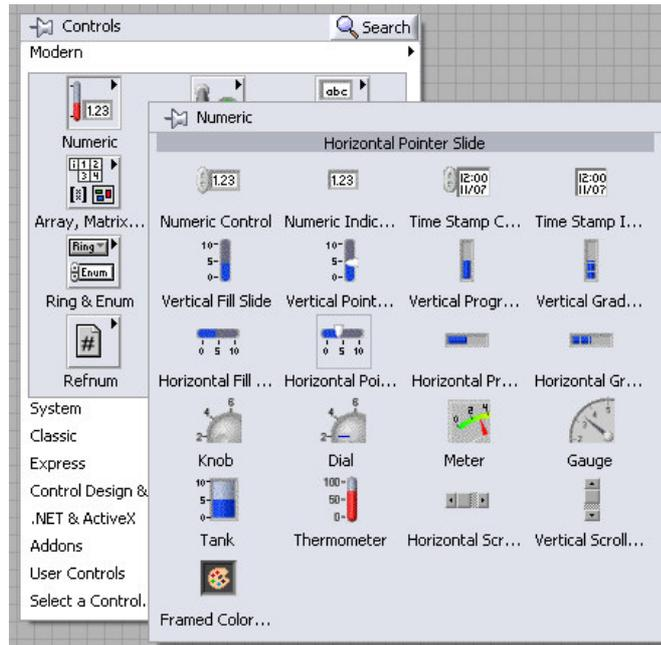

Figure 7 - Select Horizontal Pointer Slide
5. Next, we will create a slider to control the output voltage of channel 1 (AWG1). Switch to the front panel by pressing Ctrl+E. Right-click on any blank space on the front panel to bring up the controls palette (Figure 7). Select “Horizontal Pointer Slide” from the “Numeric” group (under the “Modern” group, which is opened by default). Click once on the front panel to place this control. Rename the control to “Voltage.” Switch back to the block diagram by pressing Ctrl+E again and you will see that a new icon has appeared which represents the value of the control.